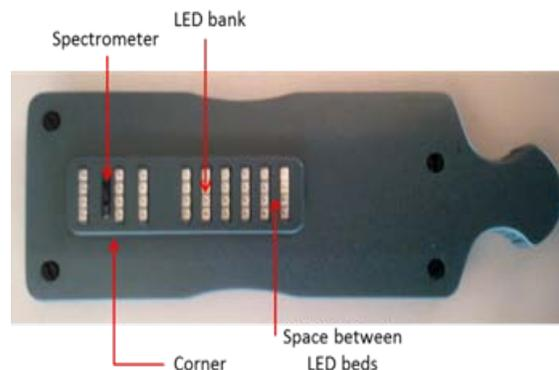

Figure 32. Layout of optical windows including LED banks and spectrometer
- 4 Use a different wipe to wipe the area between the LED banks to remove debris (Figure 32)
- 1 Click 'Check Sensor Connection' button on the System Tools page (Figure 32 ❶).
- 1 Click 'Reset Sensor' button on the System Tools page (Figure 32 ❷).